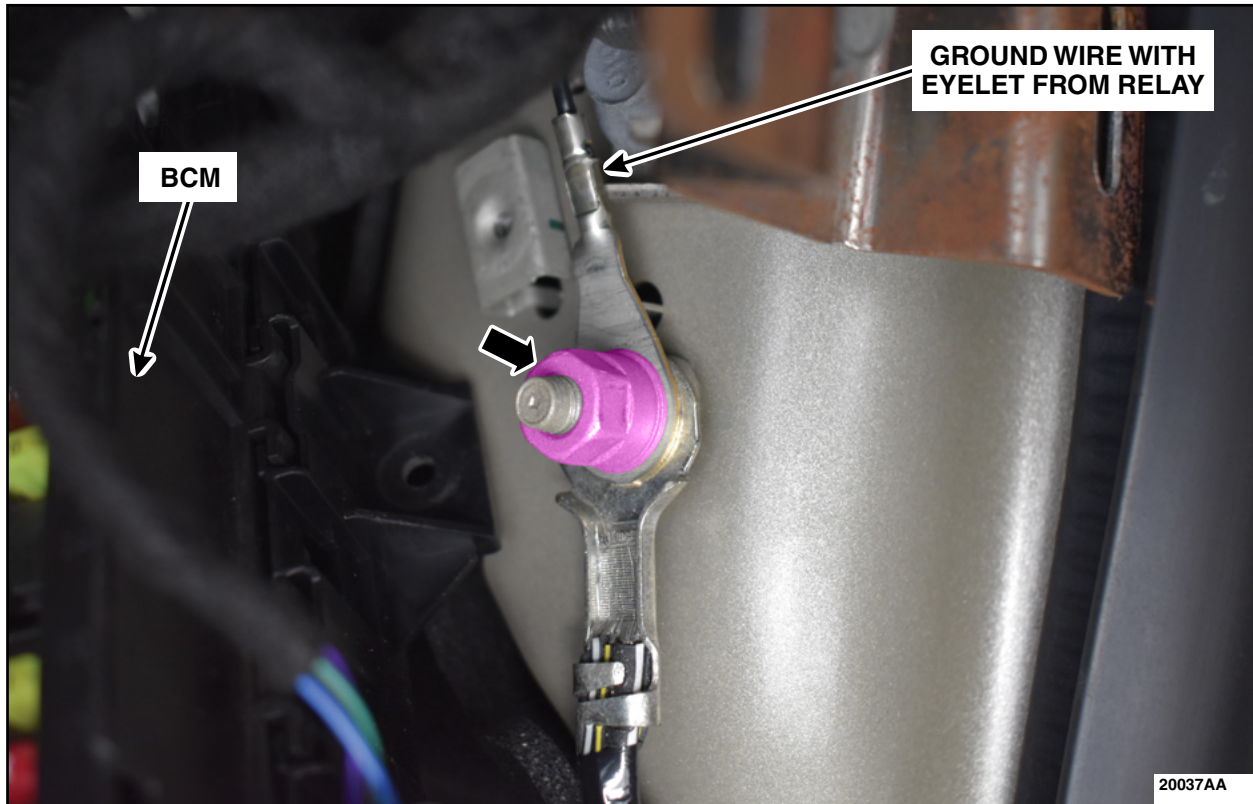

FIGURE 24
41. Remove the ground nut, install the ground wire with the eyelet from the relay on to the ground stud. Reinstall the ground stud nut. See Figure 24.